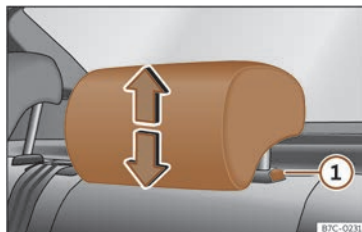

Fig. 96 Rear headrest: adjusting the headrest.
- Grab the sides of the head restraints with both hands and push upwards to the desired position. To lower it, repeat the same action, pressing the button on the side ① >>> **Fig. 96**.